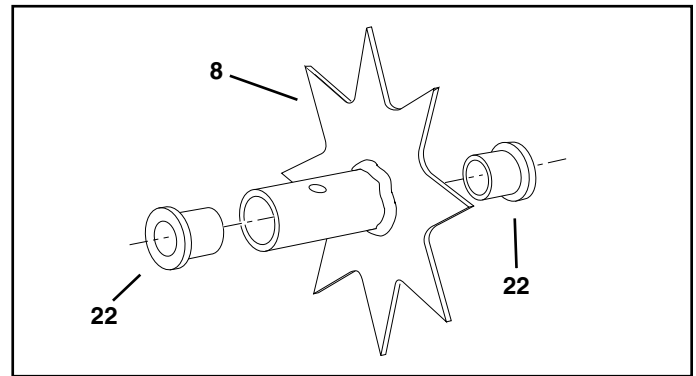

FIGURE 11
- Push two flanged bearings (22) into each of the drive disks (8). See figure 11.